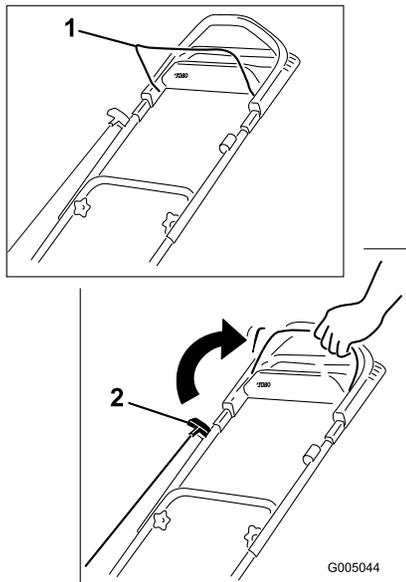

Figure 15
2. Hold the blade control bar against the handle (Figure 15).